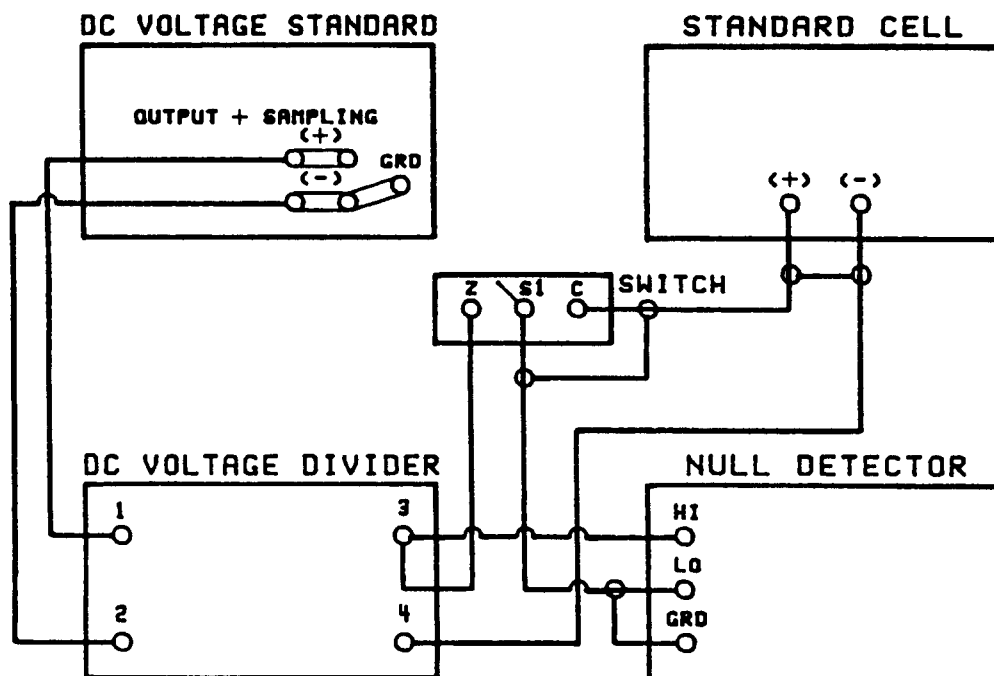

Figure 1.
- 4.2.1 Connect equipment as shown in Figure 1.
4.3.1 Reconnect the equipment as shown in Figure 1.
4.3.11 Set the DC Voltage Standard POWER switch to STDBY and reconnect the equipment as shown in Figure 1.
4.4.9 Set the DC Voltage Standard and TI DC outputs to OFF and disconnect the equipment of Figure 1.